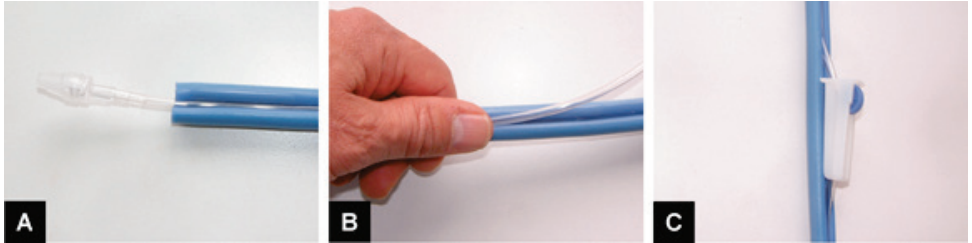

Fig. 8 Inserting infusion line
2. Start inserting the infusion line at the free end of the heating profile, about 3 cm to 5 cm behind the luer locks connection (Fig. 8 A) of the infusion set.
3. With the thumb, insert the infusion line into the groove heating profile (Fig. 8 B).
4. The best performance is achieved when as much as possible infusion line is inserted in the heating profile. Roller clamps can protrude from the profile at any point (Fig. 8 C).